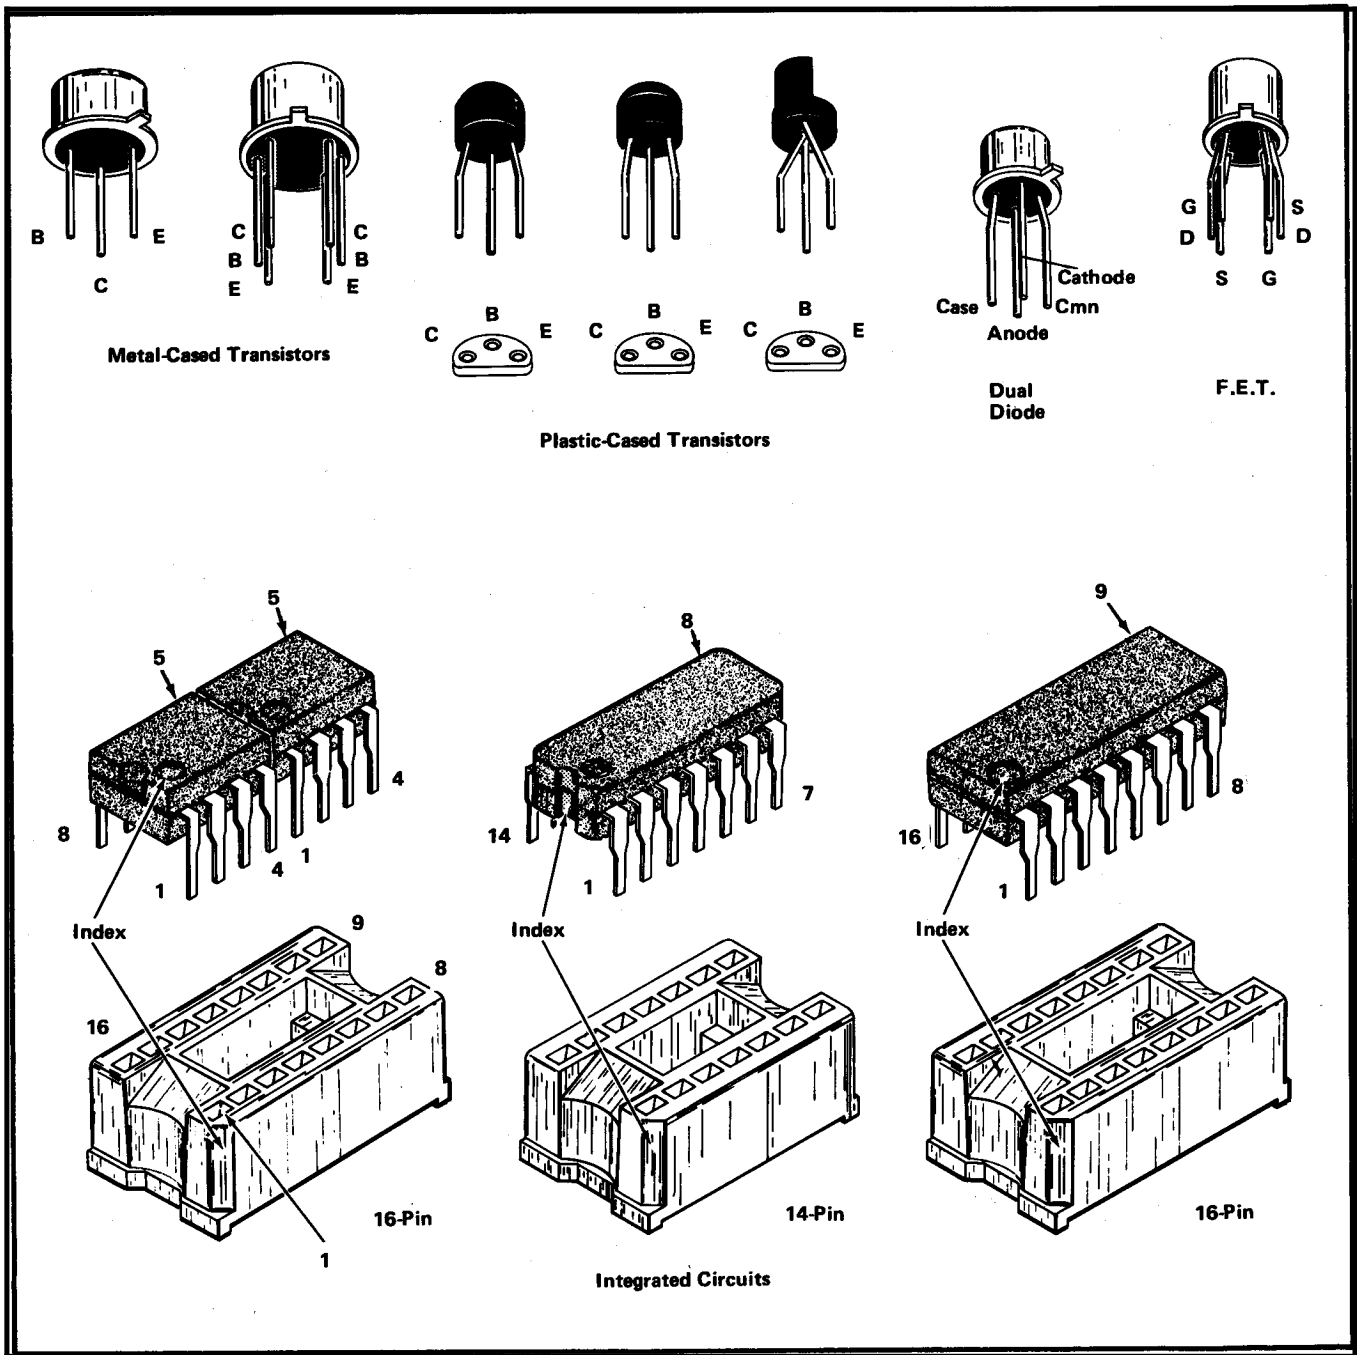

Fig. 4-1. Electrode Configuration for Semiconductors used in this instrument.
**Semiconductor Lead Configuration.** Fig. 4-1 shows the lead configuration of the semiconductor devices used in this instrument.
**A. TRANSISTORS AND INTEGRATED CIRCUITS.** The best check of transistor and integrated circuit operation is actual performance under operating conditions. If a transistor or integrated circuit is suspected of being defective, it can best be checked by substituting a component known to be good; however, be sure that circuit conditions are not such that a replacement might also be damaged. If substitute transistors are not available, use a dynamic tester (such as Tektronix Type 576). Static-type testers may be used, but since they do not check operation under simulated operating conditions, some defects may go unnoticed. Fig. 4-1 shows base pin and socket arrangements of semiconductor devices. Be sure the power is off before attempting to remove or replace any transistor or integrated circuit.
Replacement semiconductors should be of the original type or a direct replacement. Fig. 4-1 shows the lead configuration of the semiconductors used in this instrument. If the replacement semiconductor is not of the original type, check the manufacturer's basing diagram for proper basing. An extracting tool should be used to remove the 14 and 16 pin integrated circuits to prevent damage to the pins. This tool is available from Tektronix, Inc. Order Tektronix Part No. 003-0619-00. If an extracting tool is not available when removing one of these integrated circuits, pull slowly and evenly on both ends of the device. Try to avoid having one